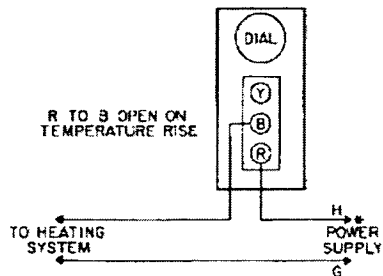

**Fig. 3 – All models have a screw type adjustment stop. Loosen and move stop screw to the stop setting desired. Tighten screw after setting is made.**
Solid cover models are adjusted by removing cover and moving dial so that the setpoint is in line with the dial pointer on the stop bracket. (See Fig. 3.)
A high temperature adjustment stop is supplied on the thermostats. (See Fig. 3.) If adjustment stop is required:
3. Loosen the adjustment stop screw, slide the screw to the front of the thermostat against the plastic stop cam behind the dial and tighten the screw. (See Fig. 3.)